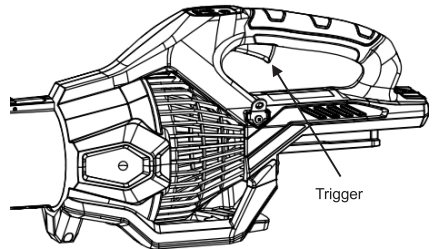

Fig. 8
2. Depress the trigger to turn on the blower (Fig 8).